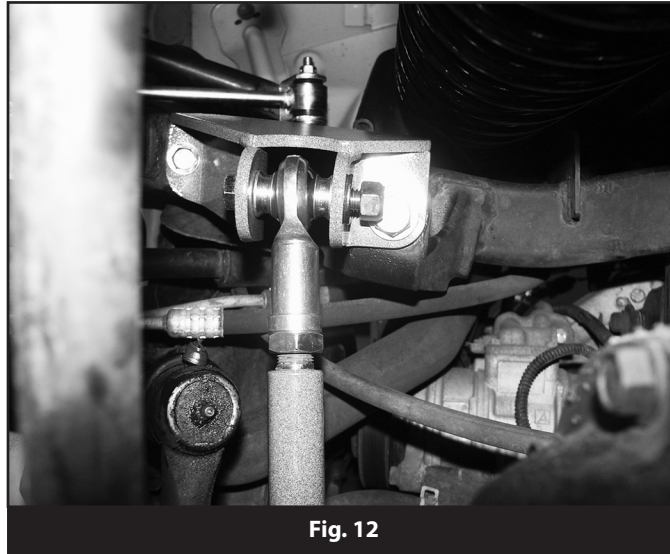

Fig. 12
26. With the track bar end adjusted to the appropriate length, attach the end to the track bar bracket with a 1/2" x 3" bolt, nut and 1/2" SAE washers (BP 753). Torque 1/2" mounting bolts at the frame and axle to 65 ft-lbs. Be sure the rod end is square in the bracket and lock off the jam nut securely (Fig 12).